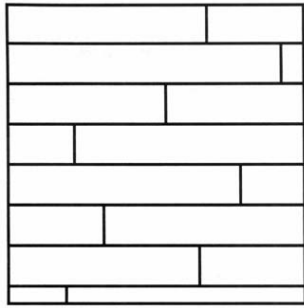

Figure 8-1 Stagger End Joints
8. Distribute lengths, avoiding "H" patterns and other discernible patterns in adjacent runs. Stagger end joints at least three times the width of the boards, as product allows. (See Figures 8-1 and 8-2.)